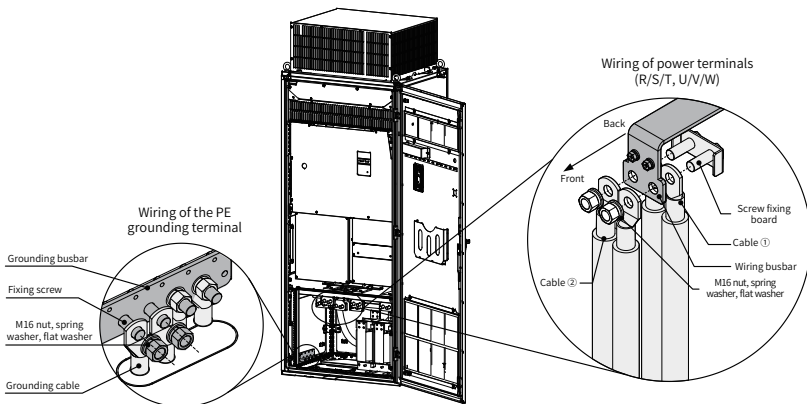

Figure 4-9 Wiring of main circuit terminals and PE grounding terminals of MD500T500G to MD500T630G (example)
■ Wiring of the grounding terminal (PE)
Step 1: Fix the grounding cable on the fixing screw rod, as shown in Figure 4-9.
Step 1: Fit two cables (①) on the screws on the screw fixing board, as shown in Figure 4-9.
Step 2: Fit the grounding busbar on the screw fixing board from the back, fit another two cables (②), and then put the flat washers and spring washers.